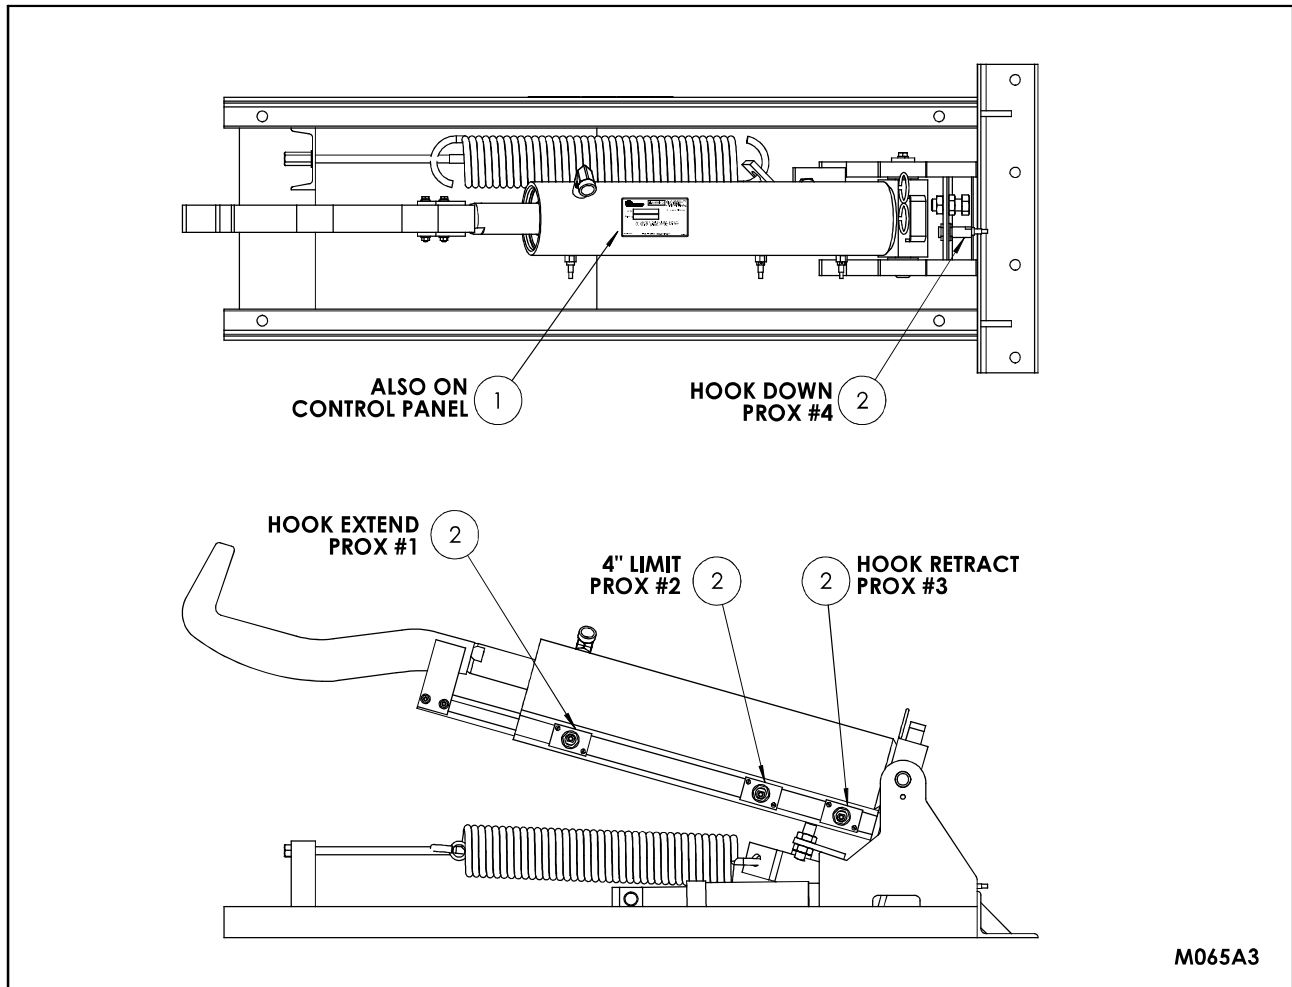

Figure 2: Label Locations
**NOTE:** In some instances, product configuration and / or product options may dictate that the product labels will not be placed as indicated on the drawing (Figure 2). Different label locations will be selected at the factory, when required, to avoid an impaired view of the labels. Note the label locations as supplied on the product, when it is received to accommodate future label replacement requirements.